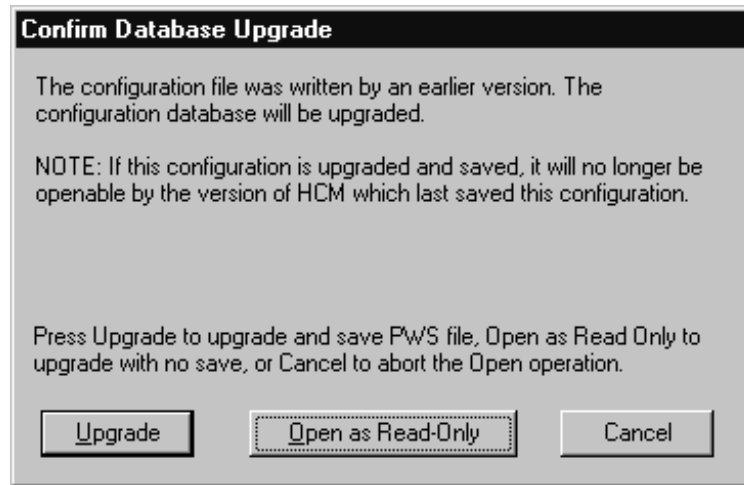

Figure 41. Confirm Database Upgrade
1. Open the pre-V1R7 configuration file (**File ---> Open**). HCM prompts you to either upgrade or open the file as read-only (Figure 41). It is recommended to use the **read-only** option, because this choice will keep a backup of the original configuration file. Or you can load a preV1R7 IODF into a new or existing, pre-V1R7 configuration file (**File ---> IODF**). Depending on the size of the IODF, this process can take quite some time because HCD converts the loaded IODF data into the new version 5 format.